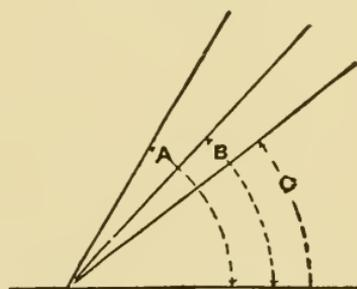

FIG. 95
planes, the former being for soft wood and the latter for the harder kinds. Fig. 95 affords an idea of three angles, A giving the set of a half-pitched plane, B that of an ordinary plane, while C shows the inclination of an extra-pitched plane. The pitch or angle at which the cutter is set is of importance. There are three angles involved in this case: (1) The angle between the cutter and the surface of the work; this should be as small an angle as possible. It is obvious that if the surfaces of the cutter and the work were perfectly parallel, the cutter would glide over the surface without cutting, except under great pressure. By making the cutter edge